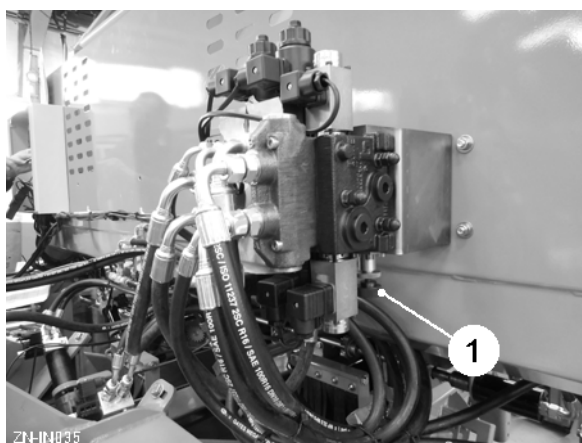

Fig 22
The speed at which the hydraulic ram functions such as tipping hopper, steering and depth control operate, can be set by adjusting the flow control knob (item 1, fig 22) under the relevant valve section.